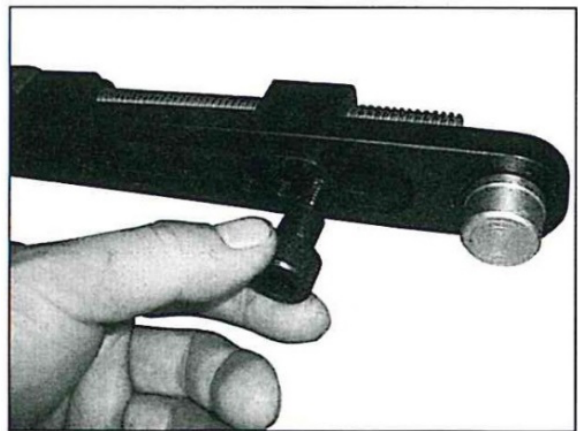

Figure 5-5
4. With the main plate of the bender now fastened to the pedestal and former die installed, pick up the handle assembly and remove the shoulder bolt from the bottom. fig 5-5.